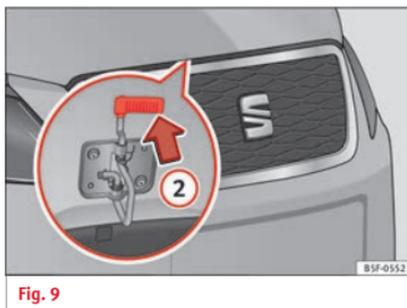

Fig. 9
- Lift up the bonnet. Press the release catch under the bonnet upwards » Fig. 9 ②. The arrester hook under the bonnet is released.